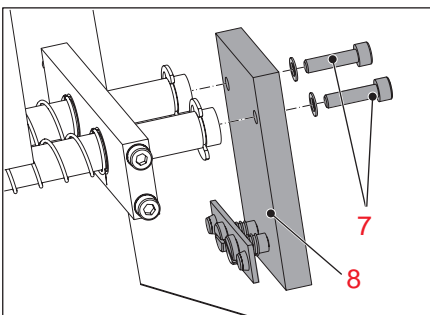

Figure 22
2. Release the two Allen screws (7) and remove them together with retaining washers and the connecting strip bracket complete (8), see **Figure 22**.
3. Install a new connecting strip bracket complete (8) with the two Allen screws (7) and retaining washers to the drive axles of the standard disconnecting and earthing device.